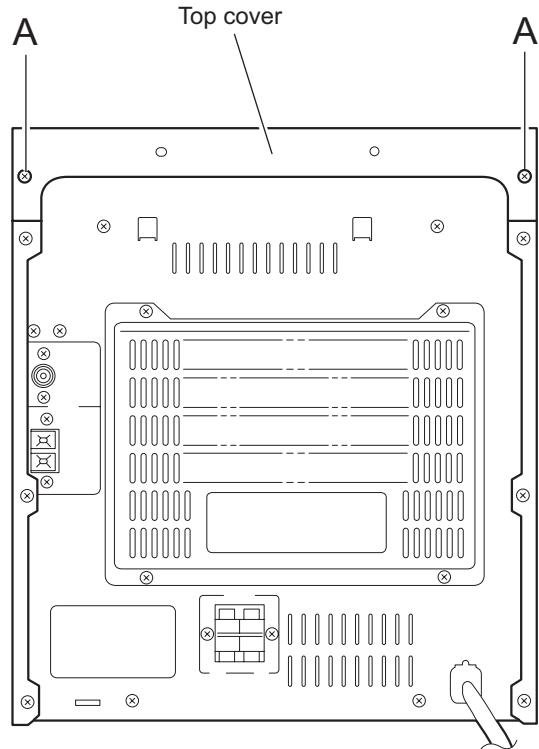

Fig.1
3.1.1 Removing the top cover / side cover (R) and (L) (See Fig.1 to 6)